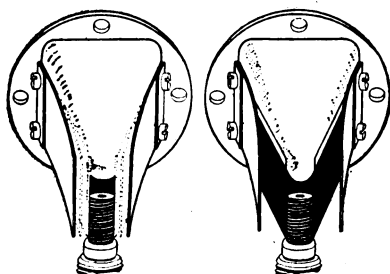

Fig. 119. Tillotson Model "C" Carburetor, Showing Steel Reeds
the position shown in Fig. 119, advance the spark a very little, close the throttle, and start the engine.
*Adjustment of the Tillotson Carburetor.* As has been stated the primary nozzle only is adjustable. The company recommends that this be done with unusual care, and very slowly. With the motor running and well warmed up, turn the adjusting handle up to the right until the motor commences to slow down from lack of fuel, then turn it back about one-eighth of a turn. Avoid getting the mixture too rich. Fig. 119 shows Model "C" 85-6 in partial section and the reed action.